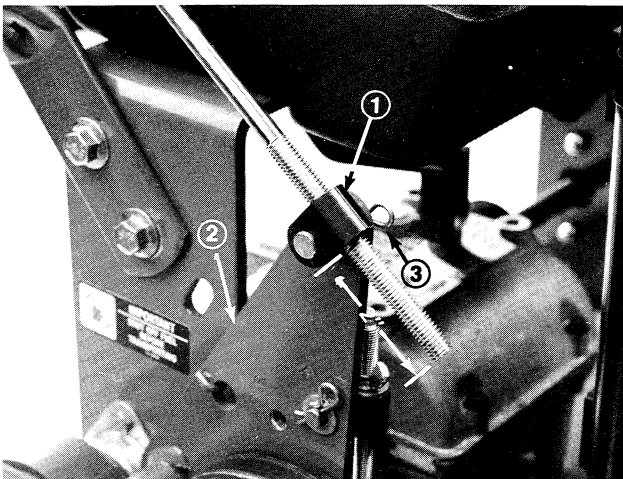

Figure 10
1. Thread a rod fitting onto each control rod approximately 2" (Fig. 10).
2. Mount rod fitting ends to mounting holes in idler brackets (from outside) with clevis pins, washers and hairpin cottes (Fig. 10).